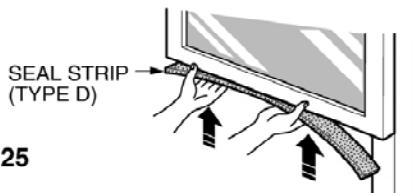

Figure 25
2. Cut the adhesive-backed seal strip (TYPE D) to the window width. Remove the backing from the seal strip and attach the seal strip to the underside of the bottom window. (Figure. 25)